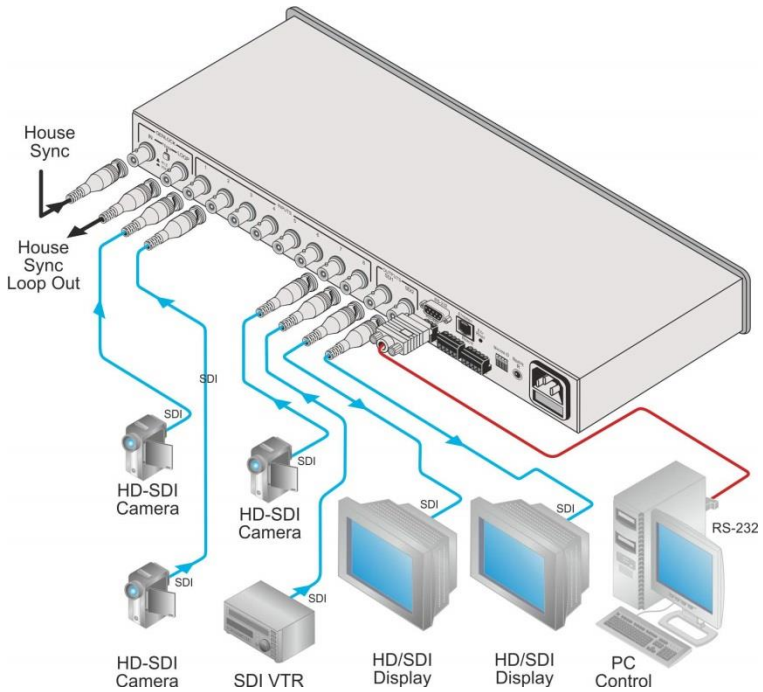

Figure 3: Connecting the VS-81HD 8x1 HD/SD-SDI Switcher
You can use your **VS-81HD** to switch one of the eight HD/SD SDI inputs to the two identical HD/SD SDI outputs, as the example illustrated in Figure 3 shows.
To connect the **VS-81HD** as illustrated in the example in Figure 3:
4. As an option (not illustrated in Figure 3), you can connect: